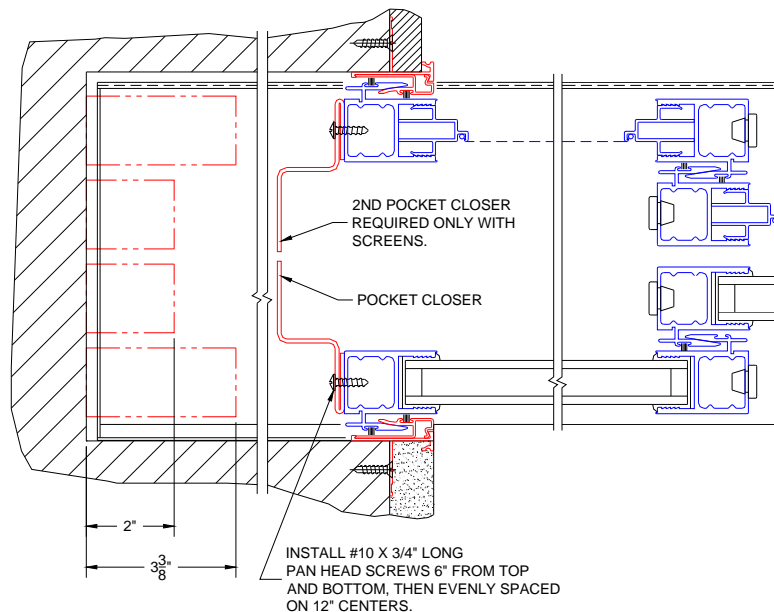

Figure 26:
4. Drill .136 diameter holes (#29 drill) thru pocket closer and one wall of interlocker. Holes to be located 6" from top and bottom of pocket closer, then evenly spaced on 12" centers. Assemble pocket closer to back side of interlocker with #10 x 3/4" long pan head screws (Figure 26).